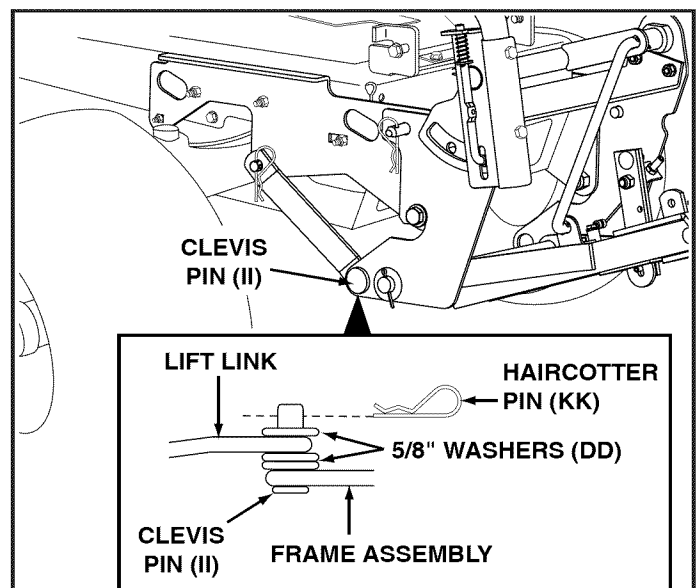

FIGURE 31
STEP 4: (SEE FIGURE 31)
- A. Insert a clevis pin (II) through the frame assembly from the outside.
- B. Place two 5/8" washers (DD) onto the clevis pin.
- D. Place a 5/8" washer (DD) onto the clevis pin and secure with a haircutter pin (KK).